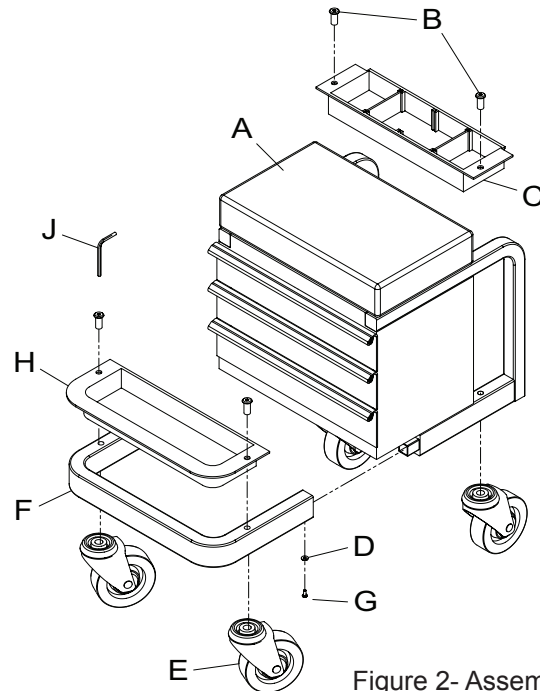

Figure 2- Assembly
Before beginning assembly of product, make sure all parts are present. Compare parts with package contents list and Figure 2 illustration. If any part is missing or damaged, do not attempt to assemble, install or operate the product. Contact customer service for replacement parts.
ASSEMBLY INSTRUCTIONS (ref. Figure 2)
1. Join frame sections by inserting front frame section (F) into channel sections of tool box subassembly (A). Line up screw holes and thread screws (G) fitted with washers (D) into corresponding holes in channel sections. Do not tighten screws yet.
2. Assemble a caster (E) and a tool tray (C or H) simultaneously. Position a caster stud into lower frame hole as seen in Figure 2. Place tool tray into position by aligning the lower frame thru-hole with corresponding hole in tool tray. Insert caster fastener into the swivel caster stud.